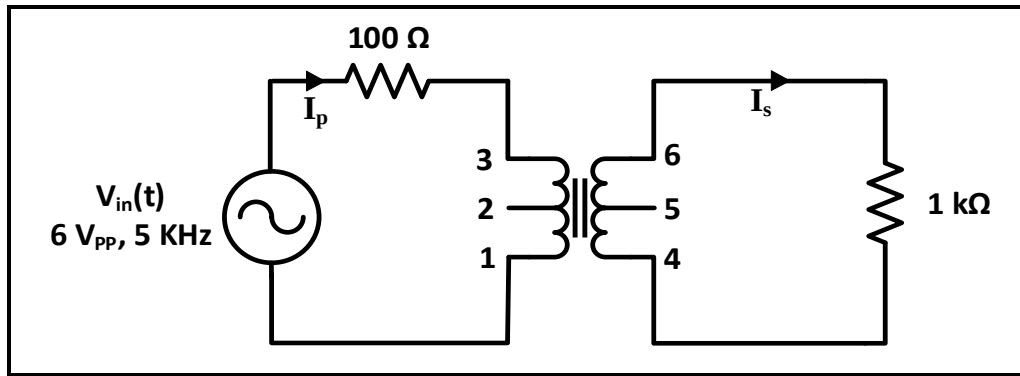

Figure 8.5
1. Connect the circuit of Figure 8.5, set $V_{in}(t)$ to sinusoidal voltage with $6 V_{PP}$ and $f = 5 \text{ kHz}$.